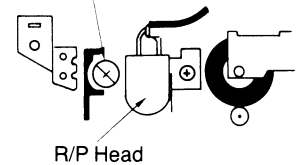

Fig. 1
(A) Head Azimuth Adjustment Condition: • Playback mode Equipment: • Test tape ... QZZMWA	<ol style="list-style-type: none"> 1. Assemble the mechanism and cabinet parts completely. 2. Play back the head azimuth adjusting tape (2.4 cm/s, 3 kHz ... QZZMWA.) 3. Adjust the azimuth adjusting screw (Refer to Fig. 1) of Record/Playback head to obtain the maximum monitor output. 4. After adjusting, repeat PLAY and STOP some times and confirm that the output variation is less than the specified level (within 3 dB).